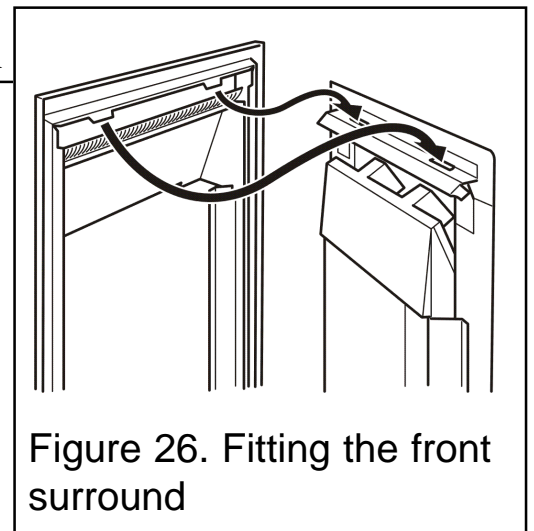

Figure 26. Fitting the front surround
1. Locate the two lugs at the top of the front surround in the slots in the convection box hood. Swing the bottom of the surround sides back against the convection box and lower the surround so that the lugs are fully seated in the slots in the convection box hood (See figure 26).